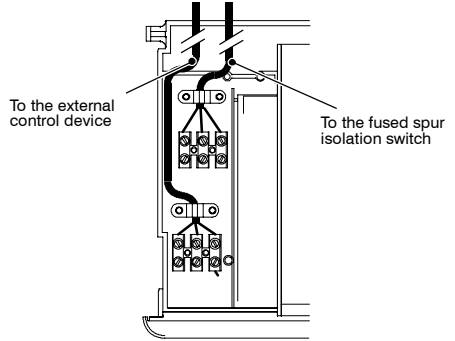

Fig. 6.20
- 9 Route the electrical supply flexible cord and the external control flexible cord as illustrated in Fig. 6.20. Lock the flexible cords in place with the flexible cord clamps